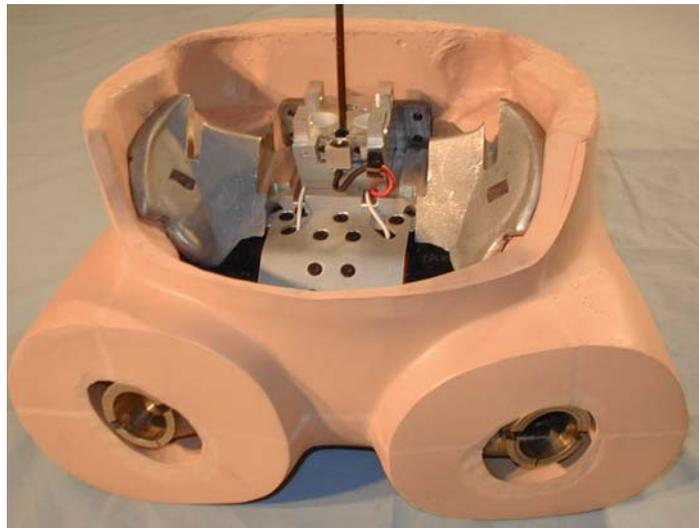

Figure 11.25- Lumbar spine block attached to pelvis and wires routed underneath
2. The pelvis / lumbar spine mounting block is attached to the Pelvis Assembly (T1PLM000) using the four 1/4-20 x 1" SHCS {3/16}, as shown in **Figure 11.25**. The mounting block is positioned with the tilt sensor assembly toward the front of the pelvis assembly. The wires from the pelvic acetabular load cells must be routed with the pelvis tilt sensor wire in the grooves provided in the pelvis assembly which lie under this block's mounting surface.